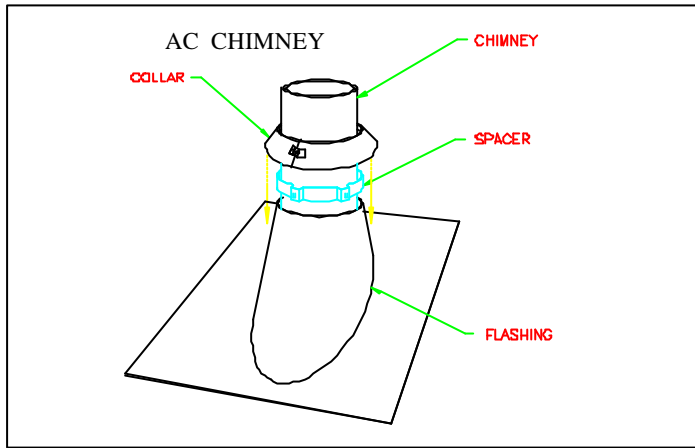

Figure 31
5. Then, put the roof flashing in place and seal the joint between the roof and the flashing with roofing pitch. (see figures 31 & 32). For sloping roofs, place the flashing under the upper shingles and on top of the lower shingles. Nail the flashing to the roof, using roofing nails.